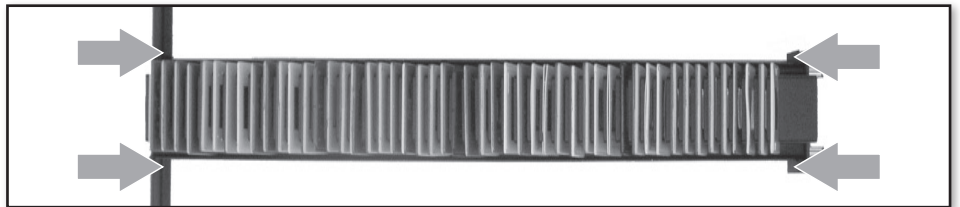

Figure 11: Pinch the magazine at its four corners (as indicated by the arrows) to free it from the magazine drawer.
5. Using both hands, pinch the four corners of the magazine together (is shown in Figure 11) until you are able to lift the magazine away from the drawer.